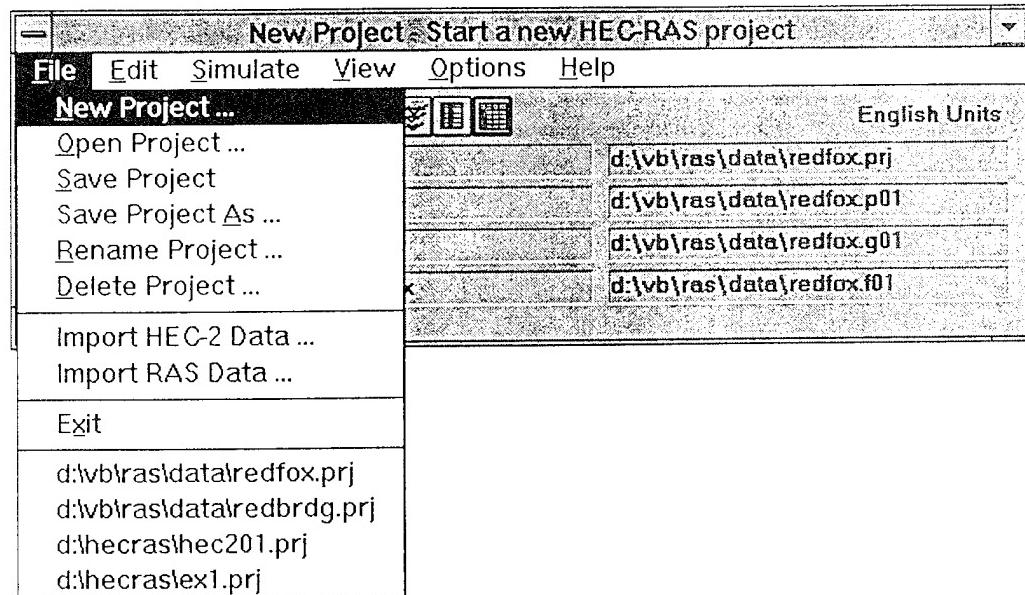
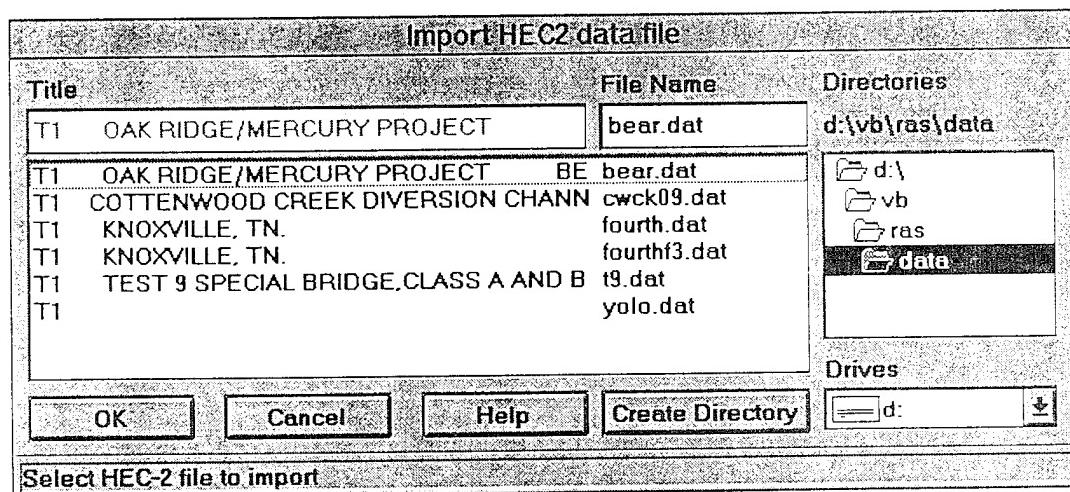

Figure 3.13 HEC-RAS Main Window With File Menu Options Shown
Figure 3.14 PopUp Window For Importing HEC-2 Data
1. Start a new project by selecting **New Project** under the **File** menu option on the HEC-RAS main window (Figure 3.13).
2. Select the **Import HEC-2 Data** option under the **File** menu on the main window (Figure 3.13). A popup window will appear (Figure 3.14), which will allow you to select a drive, path, and filename for the HEC-2 data file. Once you have selected the file, press the **OK** button.